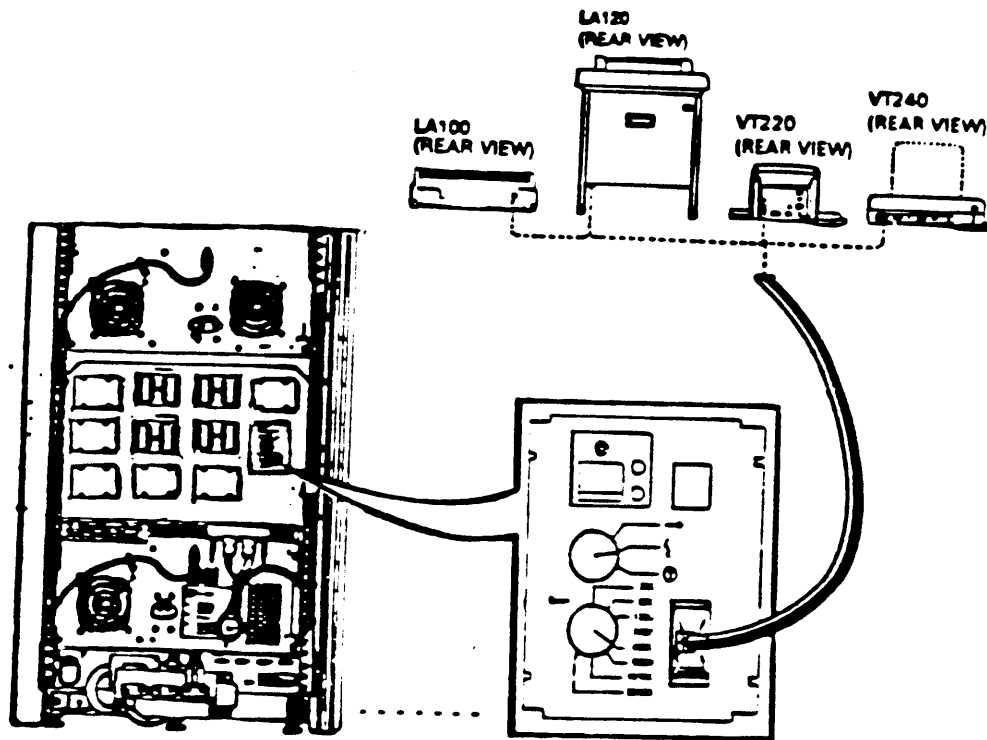

Figure 2-25. Connect the Console Terminal to the System.
Step 15: Connect the console terminal cable to the console terminal and the unit as shown in Figure 2-25.